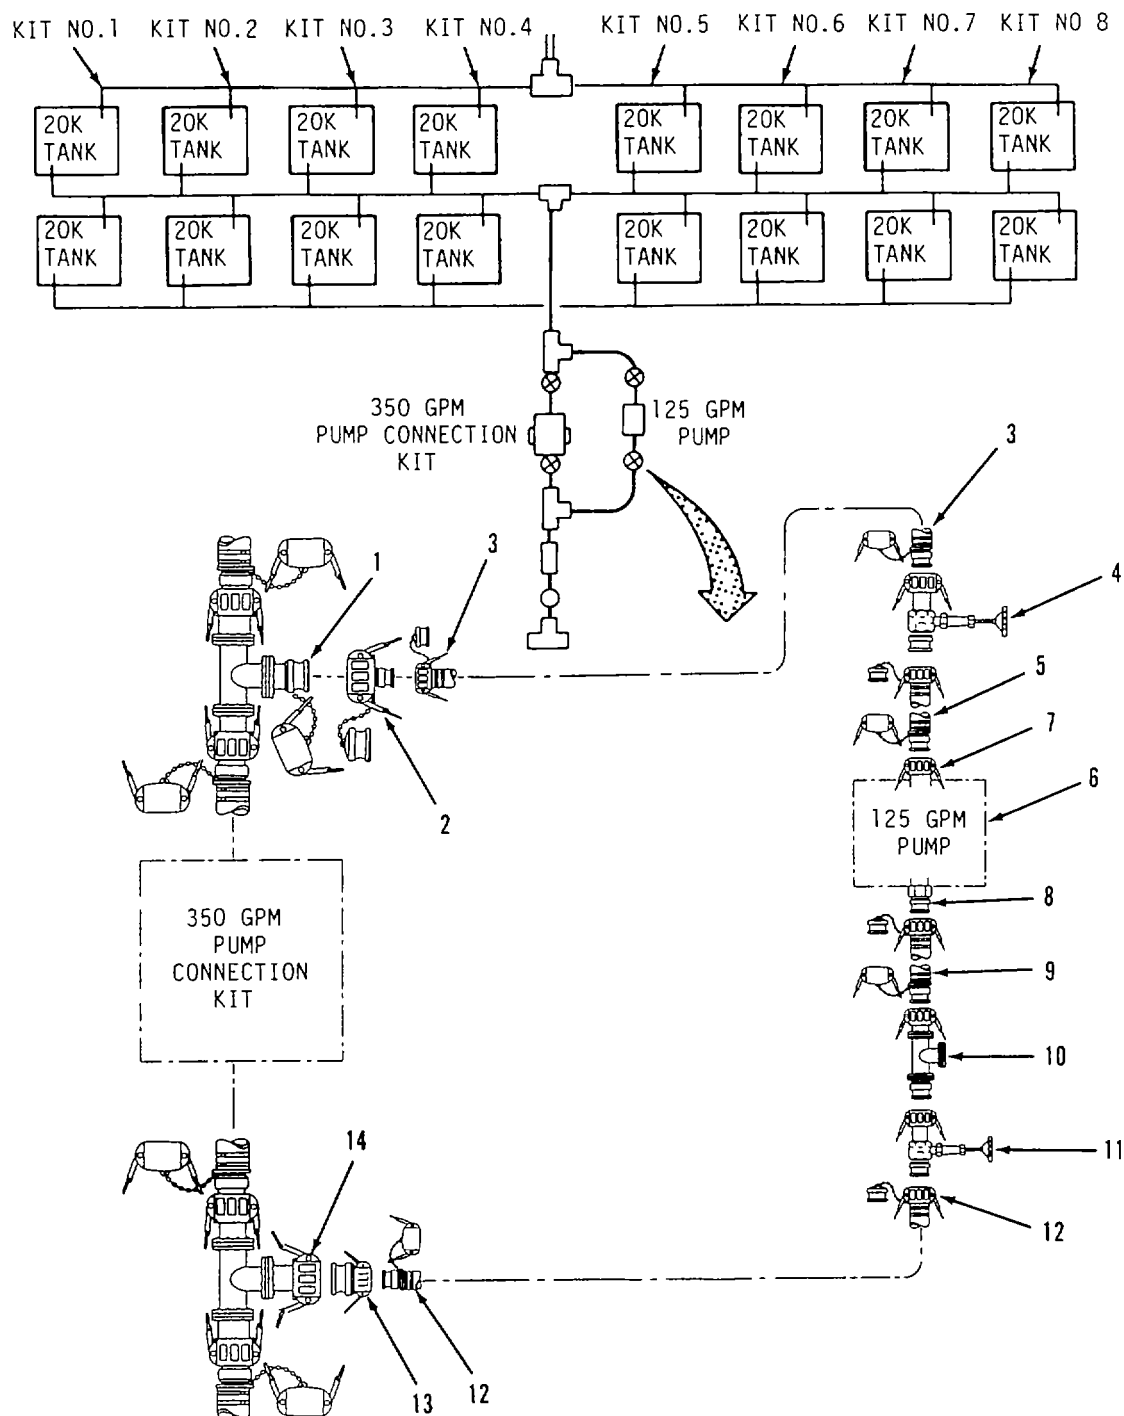

Figure 2-18. 125 Gpm Pump Connection Kit Assembly (Distribution Point).
- (17) Connect water meter (16) to 20 foot discharge hose (15).
- (18) Connect tee (17) to water meter (16).
- (19) Connect adapter (4-inch male x 4-inch male) (18) to 10 foot discharge hose (19) (part of dual tank connection kit no 4).
- (20) Connect 10 foot discharge hose (20) (part of dual tank connection kit no 5) to adapter (18).
- k. Assemble 125 Gpm Pump Connection Kit (Distribution Point). Refer to figure 2-18.